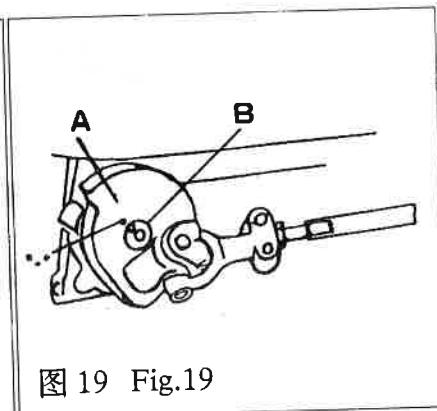

图 19 Fig.19
(1)钩线叉的基本位置 钩线叉的基本位置由钩线叉曲柄“A”与主轴“B”的位置决定。安装时应将曲柄上的圆点“.”标记对准主轴上的“V”形槽中心时，将钩叉曲柄固定(图19)。
Basic position of thread hook is decided by positions of crank "A" of thread hook and main shaft "B". When the mark "."on the crank coincides with the center of "V"groove on the main shaft, fix the crank of thread hook in place (Fig.19)
③调整钩线叉曲柄上的圆点“·”标记与主轴“V”形槽的相对位置(图19)对钩线叉的左右位置也有影响。所以调整钩线叉的左右位置，必须根据具体情况，在上述三步骤中仔细选择和反复进行调整，才能达到最佳状态。
(2) Positioning of location for pronged thread hook
③ Adjustment of location of the mark “·” on the crank of thread hook in relation to “V” groove on the main shaft(Fig.19) impairs the positioning of the location of the thread hook. Thus microadjustment of the position for thread hook shall be made accordingly. An ideal condition of operation can be acquired only when careful selection and
① 运动关系调整 通过调整钩线叉曲柄上圆点“·”标记相当于主轴“V”形槽位置(图19)。
① Adjustment of timing relation by regulating the position of the mark “·” on the crank of thread hook and “V” groove on the main shaft (Fig.19)